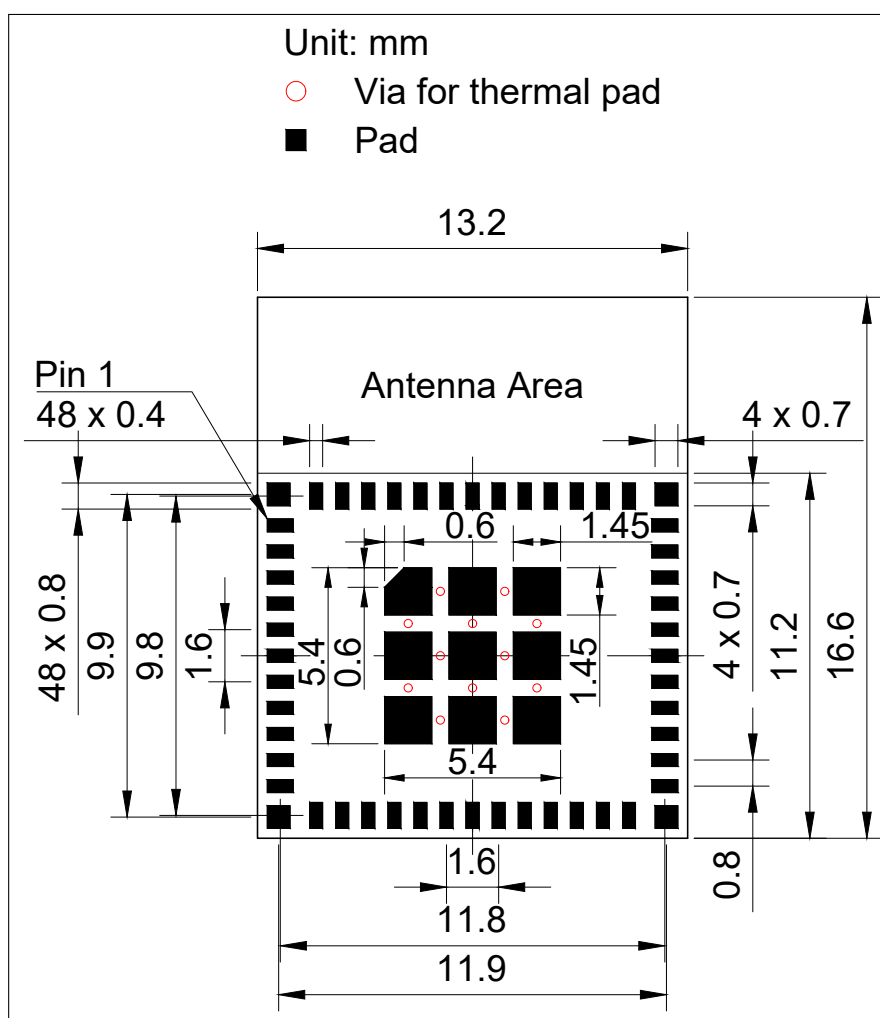
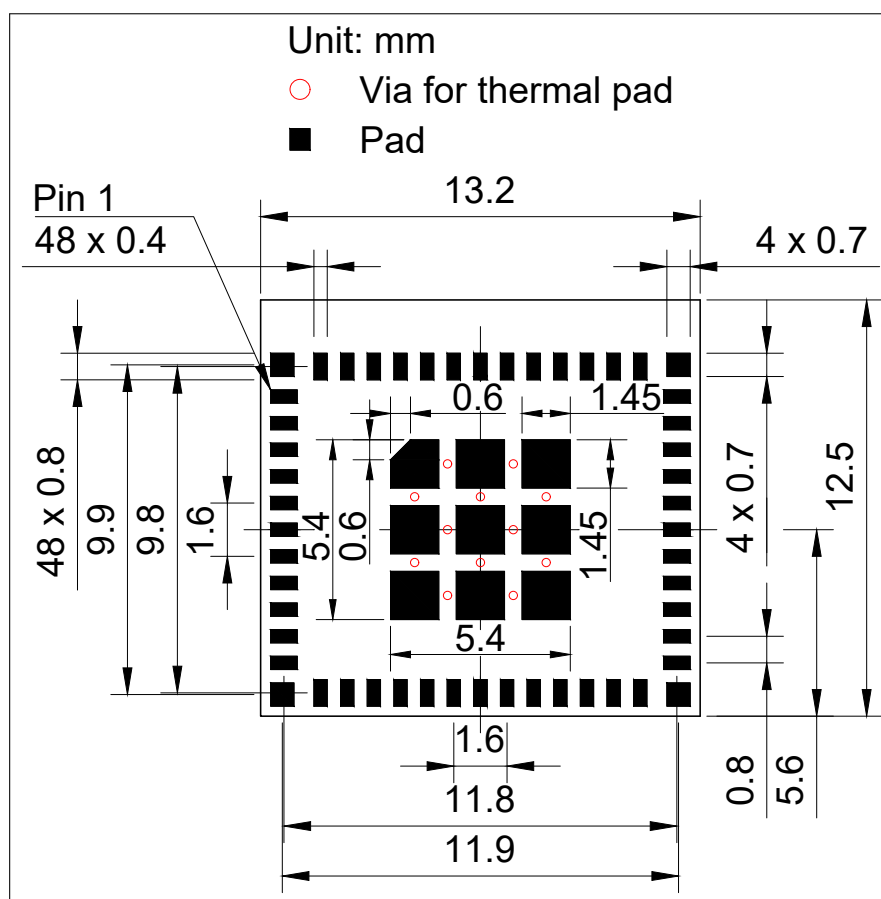

Figure 11-1. ESP32-C3-MINI-1 Recommended PCB Land Pattern
Figure 11-2. ESP32-C3-MINI-1U Recommended PCB Land Pattern
- Figures for recommended PCB land patterns with all the dimensions needed for PCB design. See Figure 11-1 *ESP32-C3-MINI-1 Recommended PCB Land Pattern* and Figure 11-2 *ESP32-C3-MINI-1U Recommended PCB Land Pattern*.
- Source files of recommended PCB land patterns to measure dimensions not covered in Figure 11-1 and Figure 11-2. You can view the source files for ESP32-C3-MINI-1 and ESP32-C3-MINI-1U with Autodesk Viewer.